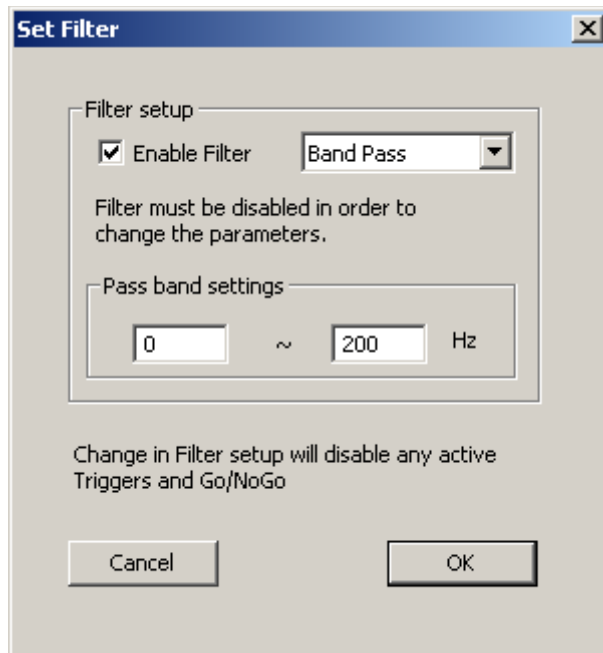

Figure 3.20: Set Filter dialog
1. Choose the menu item **Settings > Set Filter**. The Set Filter dialog is displayed (see Figure 3.20).